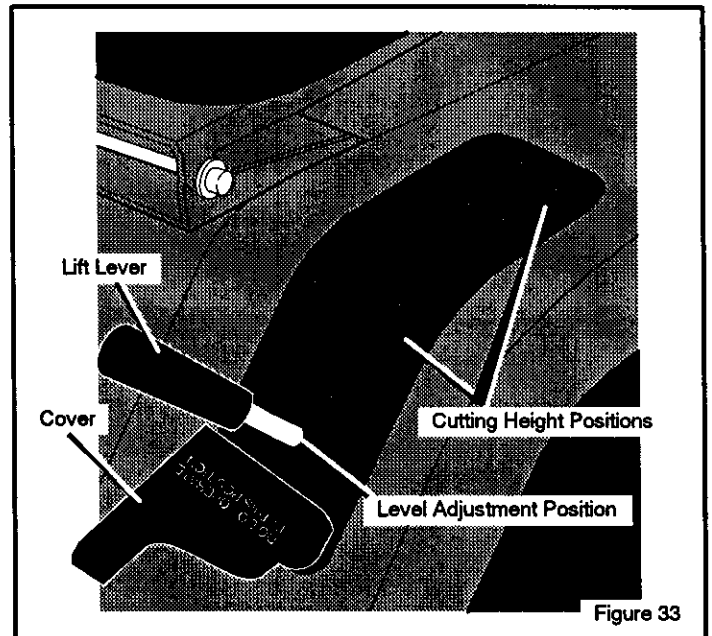

Figure 33
5. Move the lift lever to the LEVEL ADJUSTMENT position (Figure 33).